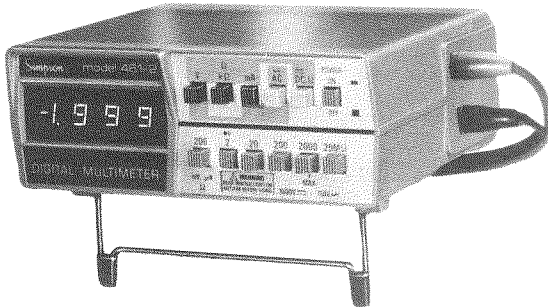

FIGURE 1-1. 461-2 DIGITAL MULTIMETER
1.1.3 The 461 (Figures 1-1 and 1-2) measures AC and DC voltages, AC and DC currents, and resistance as specified in Table 1-1. The Analog-to-Digital (A/D) conversion circuitry is contained in one Large-Scale-Integration (LSI) module which provides high reliability and compact design.